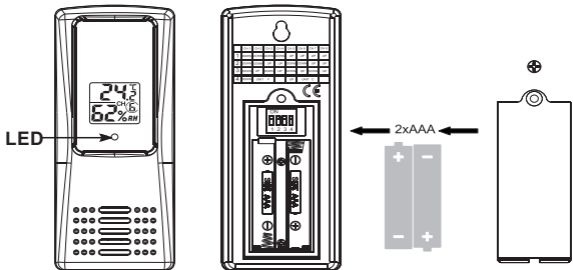

Figure 1
1. Remove the battery door on the back of the sensor by removing the set screw, as shown in **Figure 1**.